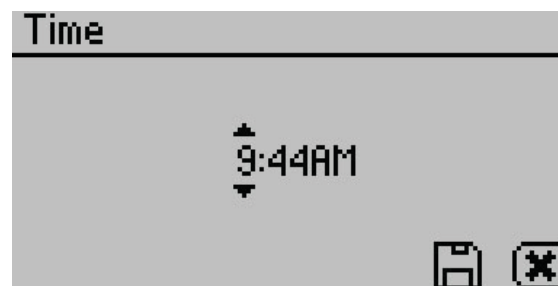

Figure 34 Time option
- **Time.** Select to set the time in the instrument. Use **RIGHT** and **LEFT** to change between the hour and minute categories and **UP** and **DOWN** to change the individual values (Figure 34). The hour setting automatically changes between AM and PM. The time is recorded with each water activity reading.